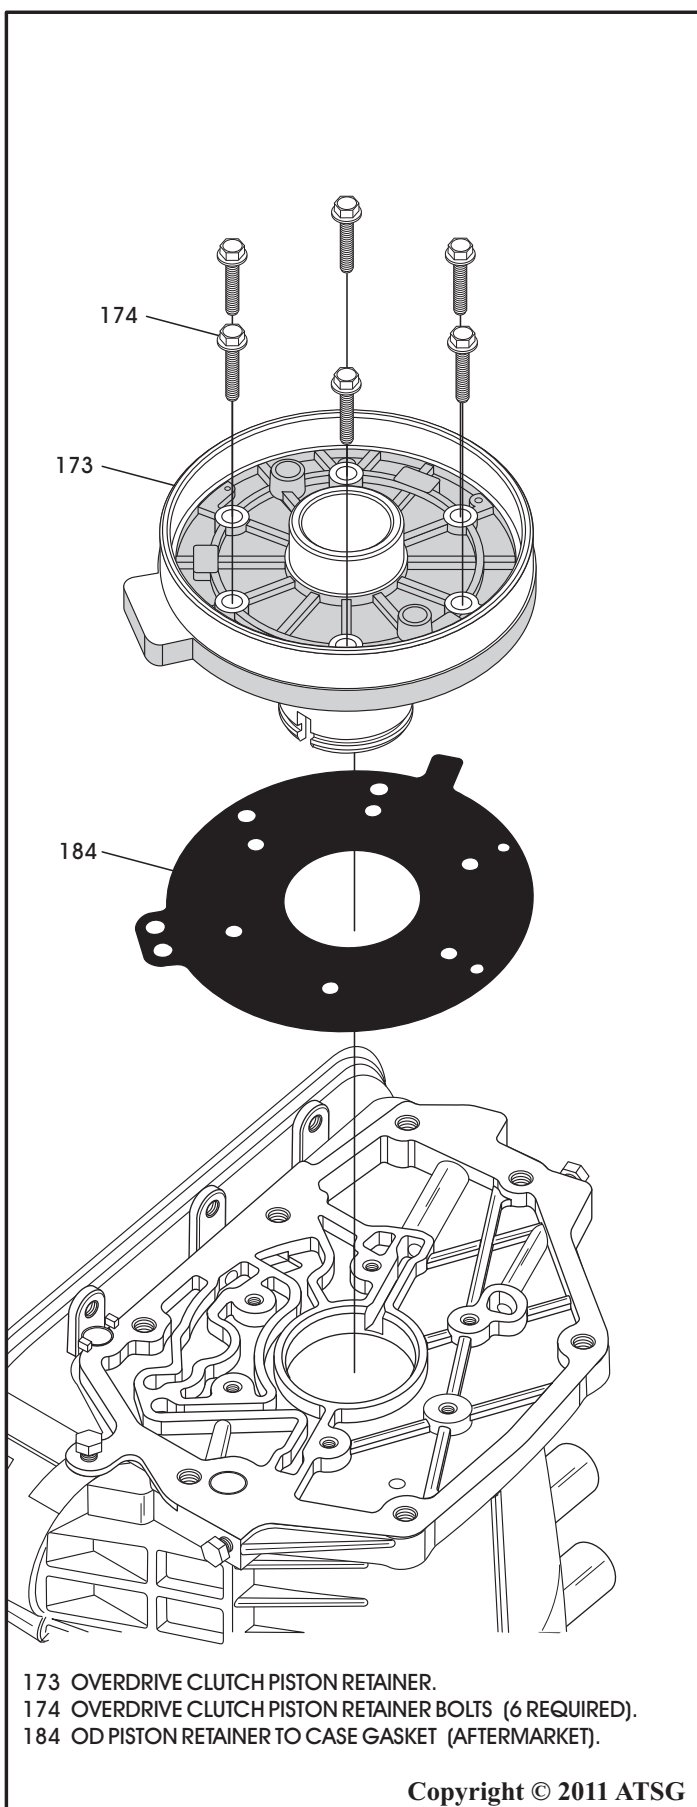

Figure 94
19. Install overdrive piston retainer to case gasket onto case, as shown in Figure 94.
20. Install overdrive piston retainer onto the case, as shown in Figure 94, aligning bolt holes in the retainer with the gasket and case.
21. Install the six overdrive piston retainer bolts, as shown in Figure 94.